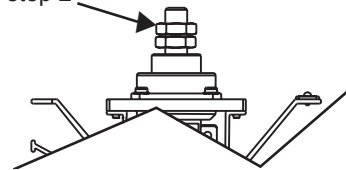

Figure 1 - Removing Stud
2. Using double nuts, remove stud from terminal. See Figure 1.